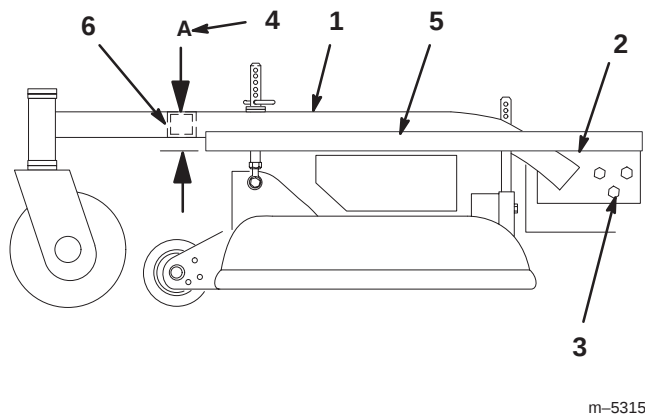

Figure 44
2. Place a long straight edge on top of the engine deck as shown in figure 44.
- At the carrier frame cross tube, measure location **A** height (Fig. 44). This measurement must be 2–13/16 in. (71 mm), plus or minus a 1/4 in. (6 mm).
- Loosen the carrier frame mounting bolts on both sides of the machine (Fig. 44).
- Align the carrier frame and engine deck to match 2–13/16 in. (71 mm), plus or minus a 1/4 in. (6 mm), at location **A** (Fig. 44).